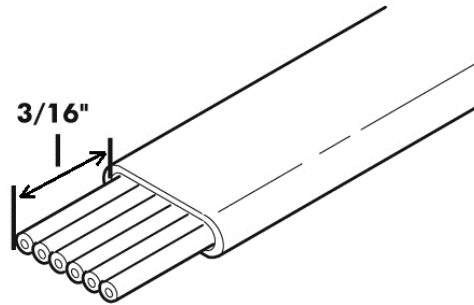

FIGURE 7: Stripped CA Cable
5. The stripped insulation should expose approximately 3/16" of wire (Figure 7).